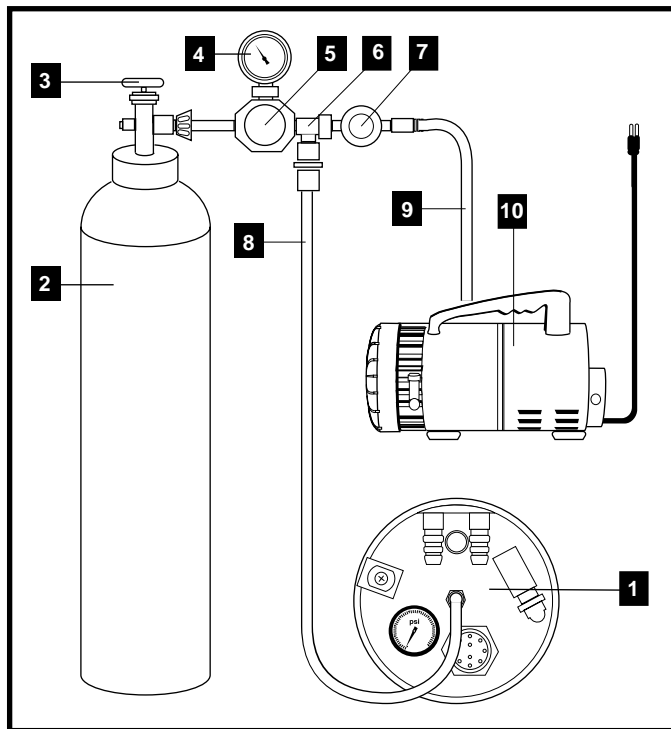
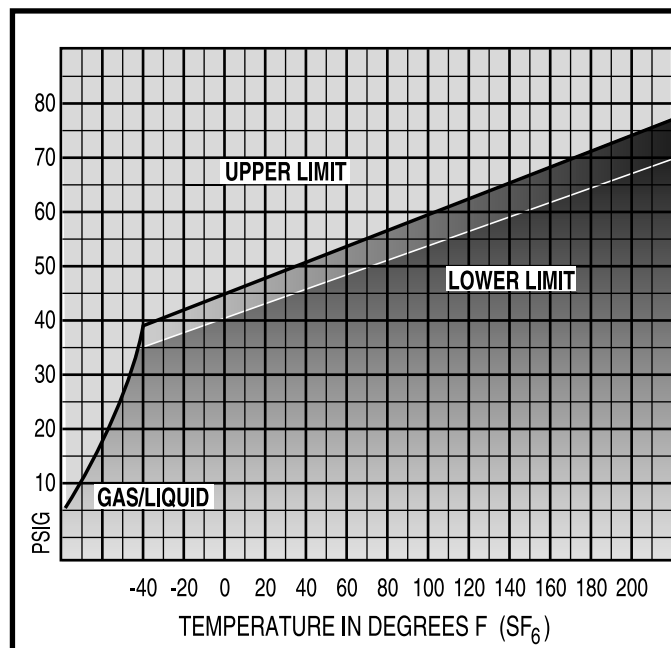

Figure 6-1:
Figure 6-2:
The following paragraphs describe the general maintenance procedures to perform periodically on the Tubehead. Outlined are the steps for Re-pressurizing and Re-filling the Tubehead with sulfur hexafluoride gas, and the conditions under which each are performed. Refer to the set up diagram (Figure 6-1) when adding SF₆ gas to the Tubehead. A Temperature Compensation chart is provided for use in conducting these tasks.
As shown in Figure 6-2, temperature changes cause SF₆ gas to expand or contract at the rate of 1 psi for every 7°F increase/decrease in ambient air temperature. Allow for these changes when checking the Tubehead gas pressure, or while re-pressurizing/re-filling the Tubehead. The following graph illustrates the maximum and minimum pressure limitation of the Tubehead at various temperature ranges. Use this chart whenever the Tubehead is inspected, re-pressurized, or re-filled.
Refer to Figure 6-1 and 6-2 while performing this procedure.
3. Connect the Tubehead (1) to the regulator assembly (6) using the hose (8), as shown in Figure 6-1. Leave the SF6 cylinder closed at this time. For this procedure, hose (9), and pump (10) are not required.
4. Open the vacuum line valve (7) slightly, to purge the hose (8) of standing air. Open the SF6 gas cylinder slightly to purge the regulator of any standing air. Now close the vacuum line valve (7), and open the SF6 cylinder valve (3) to its fully open position (against its physical stop).
5. The Tubehead will begin filling with SF6. When the gas gauge indicates the correct pressure, close the SF6 cylinder valve (3). To determine the correct pressure, refer to the “Pressure vs. Temperature” chart (Figure 6-2).
3. Connect the vacuum pump (10) and the Tubehead (1) to the regulator assembly (6), using the hoses (8) and (9) as shown in Figure 6-1.
4. Leaving the SF6 gas cylinder valve (3) closed, open the vacuum line (7) counter-clockwise.
6. Close the vacuum line valve (7) and turn the vacuum pump off. Open the SF6 cylinder valve (3) to its fully open position (against its physical stop). Fill the Tubehead until the gauge indicates 25 psi, then close the cylinder valve.
7. Open the vacuum valve and run the pump an additional 10 minutes. Close the vacuum line and stop the pump. Open the SF6 cylinder valve again and fill the Tubehead to the pressure indicated on the "Pressure vs. Temperature" chart (Figure 6-2). When the Tubehead is at the correct pressure, close the SF6 cylinder valve.